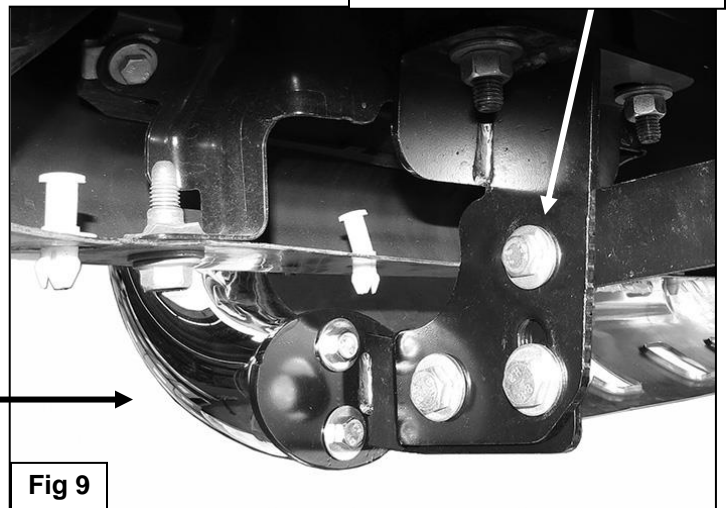
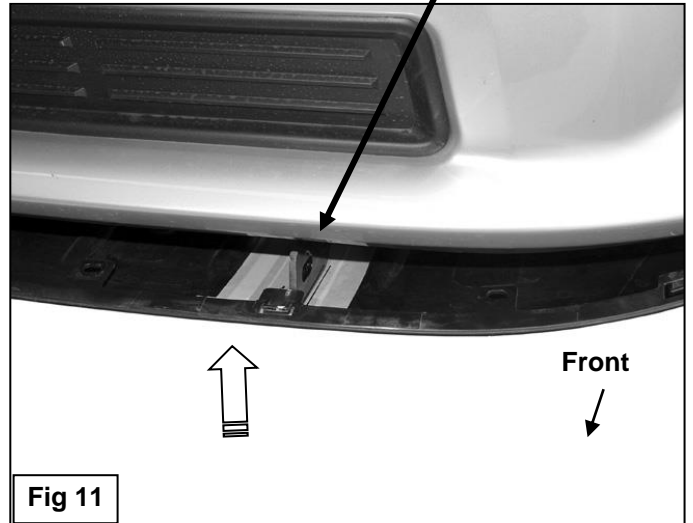

Fig 9
Fig 11
4. Next, select (1) Tube Mounting Bracket, **(Figure 8)**. Bolt the Bracket to the end of the Bull Bar with (2) 8mm x 35mm Hex Bolts, (2) 8mm Lock Washers and (2) 8mm Flat Washers, **(Figure 9)**. Leave hardware loose at this time. Repeat this **Step** to install the passenger side Tube Bracket.
5. With help, position the Bull Bar with Tube Brackets up to the inside of the Mounting Brackets. Use the included (4) 12-1.75mm x 35mm Hex Bolts, (8) 12mm Flat Washers, (4) 12mm Lock Washers and (4) 12mm Hex Nuts to attach the Tube Brackets to the Mounting Brackets, **(Figures 9 & 10)**. **NOTE:** On vehicles with tow hooks, insert the 12mm rear Hex Bolt through the rear hole in the Mounting Bracket, the Tube Bracket in the middle and out through the flat end of the Support Bracket, **(Figure 7)**. Do not tighten hardware at this time.
6. Stand back from the vehicle and check to see that the Bull Bar is centered and level on the vehicle and adjust as necessary. Tighten only the hardware securing the Mounting Brackets to the vehicle first. Next tighten only the (4) 8mm Hex Bolts securing the Tube Brackets to the Bull Bar as described in **Step 4**. Do not tighten the 12mm hardware attaching the Tube Brackets to the Mounting Brackets. Remove the Bull Bar with Tube Brackets attached.
7. Hold the splash guard up to the bumper cover and align it with the mounting points, **(Figure 11)**. Mark the location of the Mounting Brackets onto the back of the splash guard, **(Figures 11—13)**. Cut an approximately 1" wide by 4" long slot in the splash guard, **(Figure 13)**. **NOTE:** The size of the slot is an estimate only and may vary due to different factory designs for the splash guards and front bumper covers. Also, additional cutting may be required to clear the Support Bracket on vehicles equipped with tow hooks. **IMPORTANT:** To avoid weakening the splash guard, do not cut the slot any larger than necessary. Do not